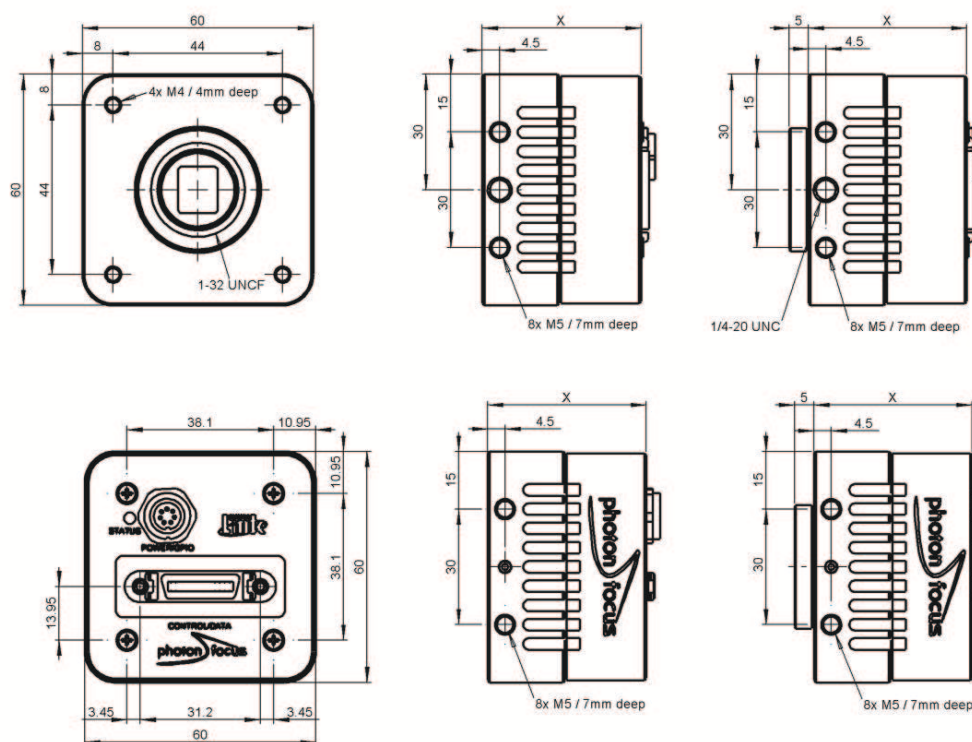

Figure 8.1: Mechanical dimensions of the CameraLink model, displayed without and with C-Mount adapter
Fig. 8.1: Shows the mechanical drawing of the camera housing for the MV1-D1312(I) CMOS cameras. The depth of the camera housing is given in Table 8.1 (all values in [mm]).